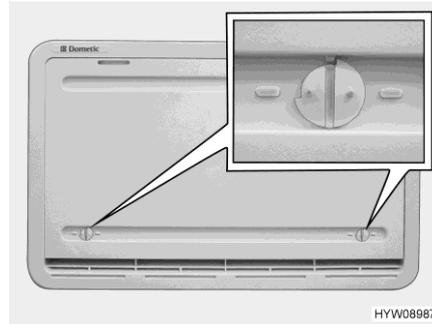

Fig. 238 Winter cover
If the refrigerator is to be operated at low external temperatures, the manufacturer recommends the use of a winter cover (Fig. 238) for the refrigerator ventilation grills.
- Open both locks (Fig. 238) (groove in horizontal position).